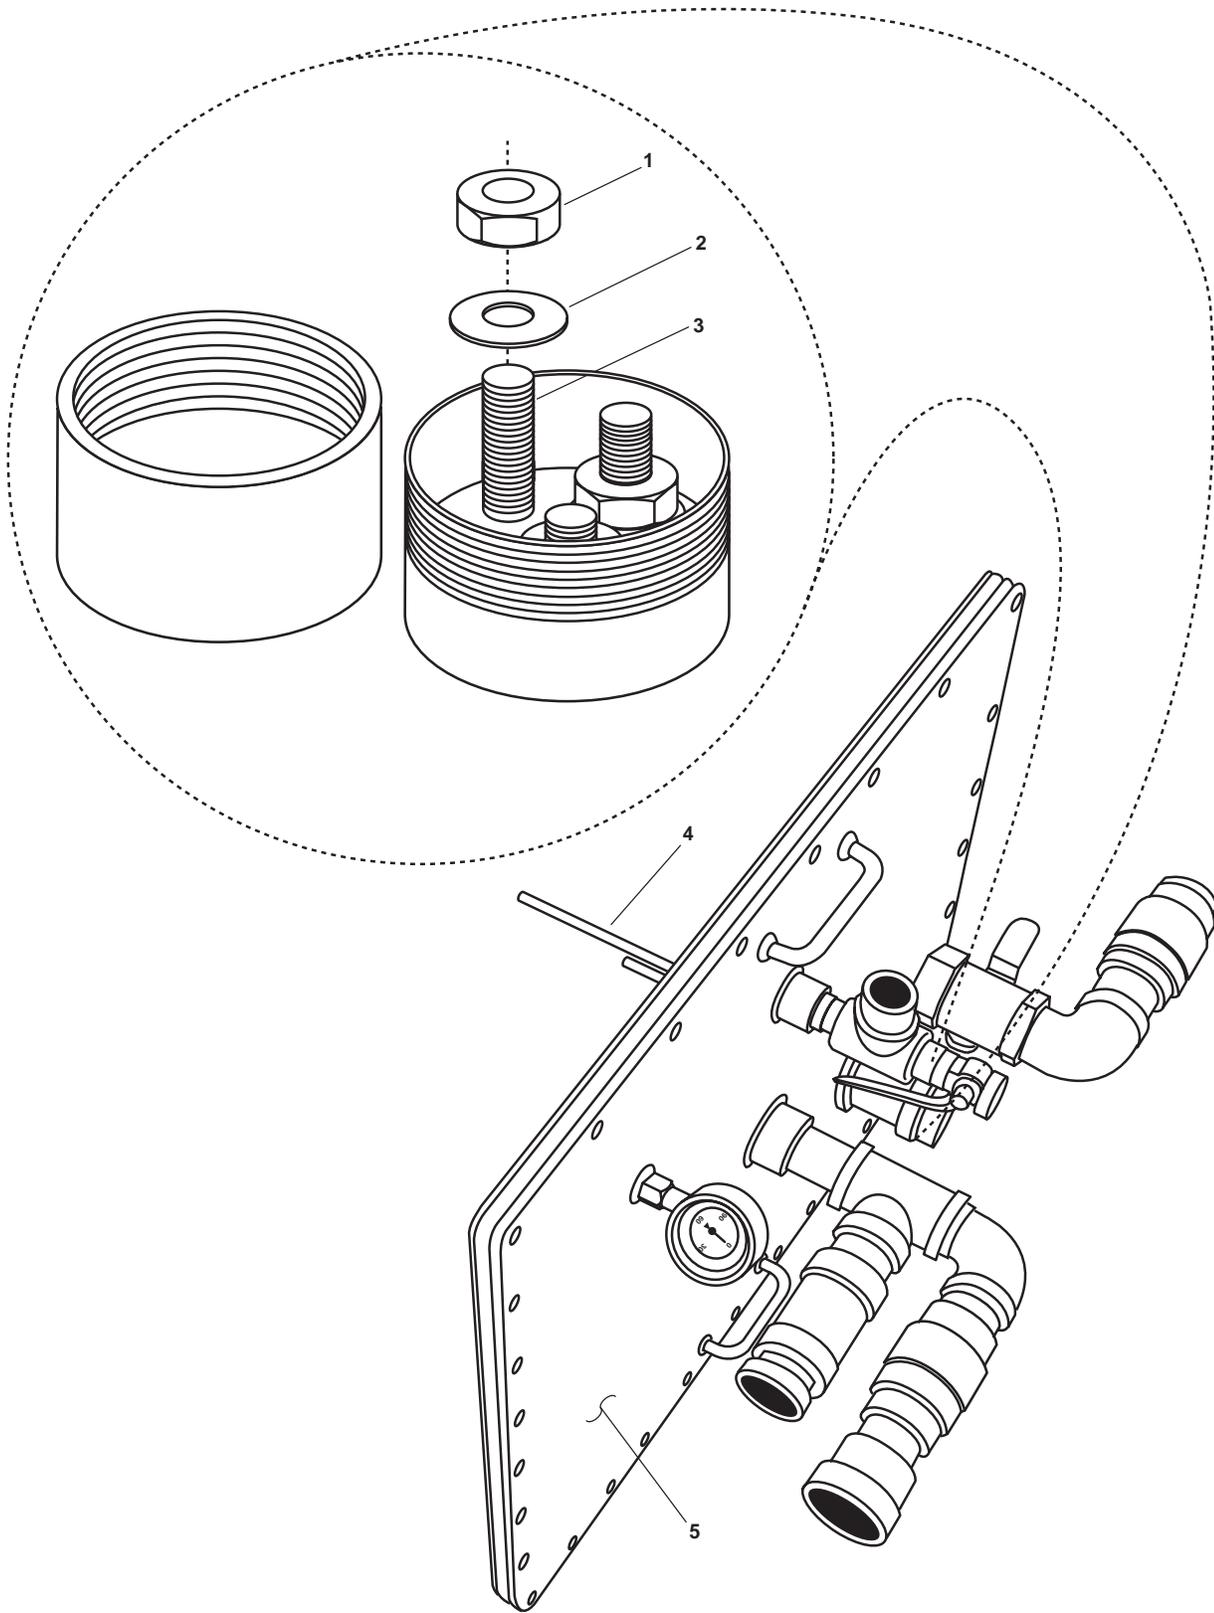

Figure 2. OWS Tank Cover from OWS Tank
2. Remove the three nuts (figure 2, item 1) and three flat washers (figure 2, item 2) from the sensitive switch studs (figure 2, item 3).
3. Remove the sensitive switch (figure 2, item 4) from the OWS tank cover (figure 2, item 5).
1. Install the sensitive switch (figure 2, item 4) into the OWS tank cover (figure 2, item 5).
2. Install the three flat washers (figure 2, item 2) and the three nuts (figure 2, item 1) on the sensitive switch studs (figure 2, item 3).